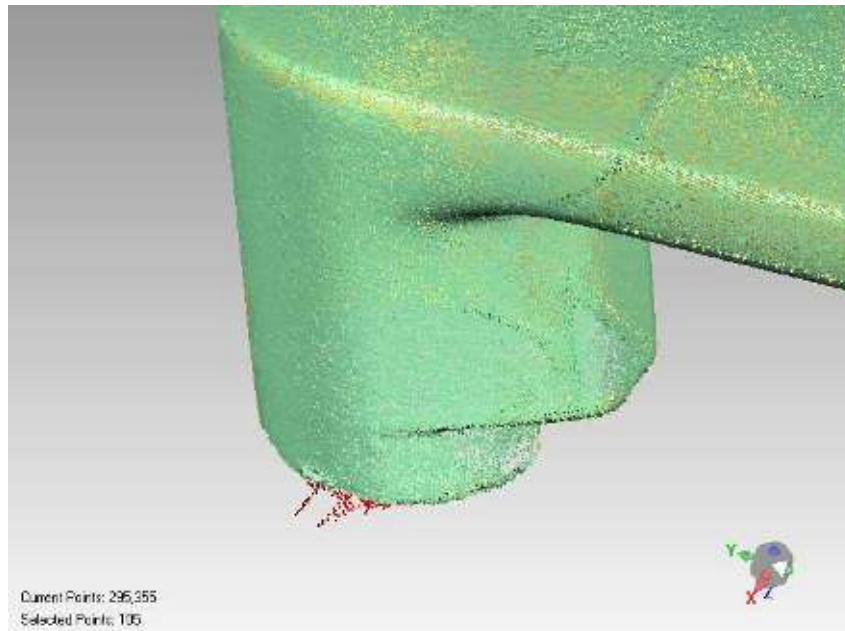

Figure 46
*☞ See **Figure 46** for an example of stray/errant points.*